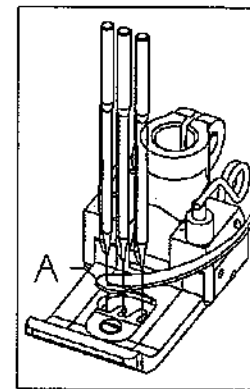

FIG. 2
On return, wiper hook must catch all needle threads (Fig. 2) and draw them into leaf spring (B) to be clamped.
The clearance of the knife tip (A, Fig. 1) should be .4 to .8mm from the left needle (B, Fig. 2) and .2 to .4mm from the spreader (C, Fig. 3). the angle should be set to pick up the spreader thread.